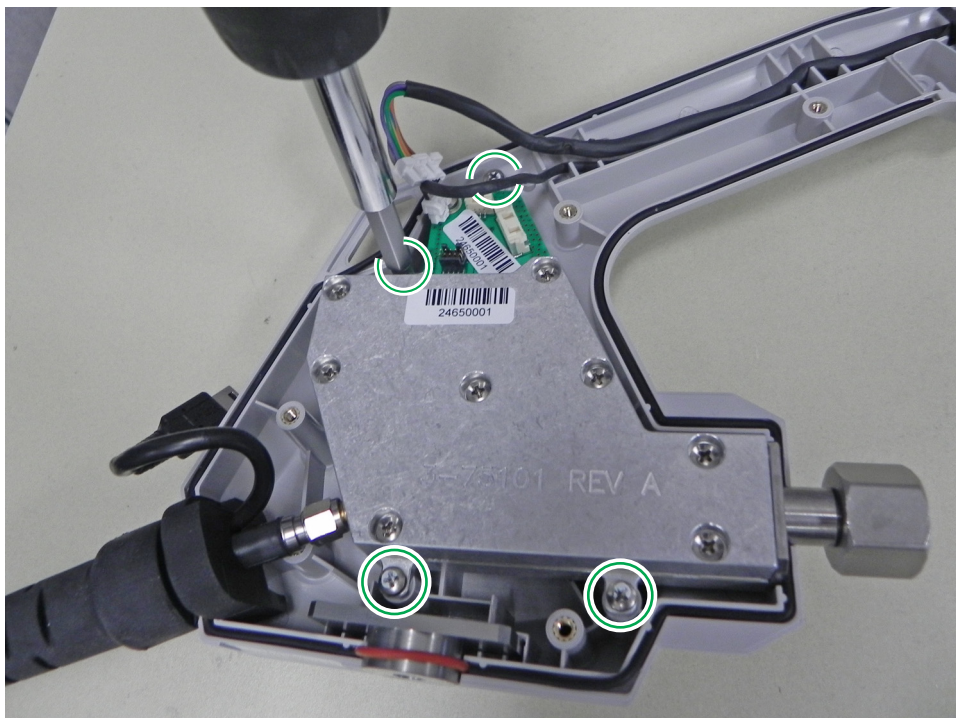

Figure 3-7. Remove the 4 screws on the Main PCB Assembly
4. Use a Phillips screwdriver to remove the four screws securing the Main PCB Assembly to the back half of the case (Figure 3-7).